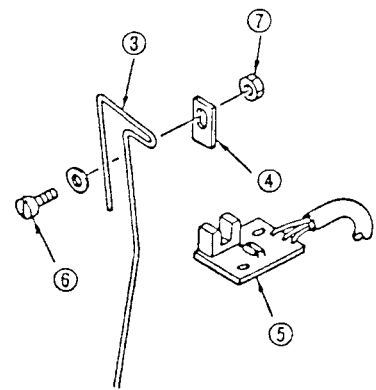

Fig.1
1. To adjust the closing lever sensor shut off plate.(Fig.1)